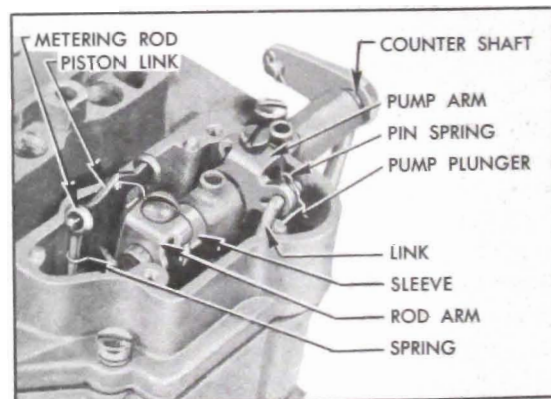

Figure 3-45—Metering Rod and Pump Operating Parts
3. Remove dust cover and gasket. Rotate eyes of metering rods off pins on vacuumer piston link and lift rods out, using care to avoid bending them. See figure 3-45.
4. Remove pump arm link, loosen screws in metering rod and pump arms, then remove pump operating countershaft, spacer sleeve and both levers. See figure 3-45.
down to enter metering rod jet, then rotate eye of rod over pin on vacuum piston link. Use care to avoid bending metering rod. See figure 3-45.